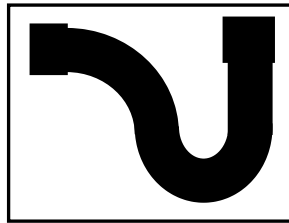

FIGURE 3.1
3.1 FIGURE 3.1 below shows a water trap that is used in civil services.